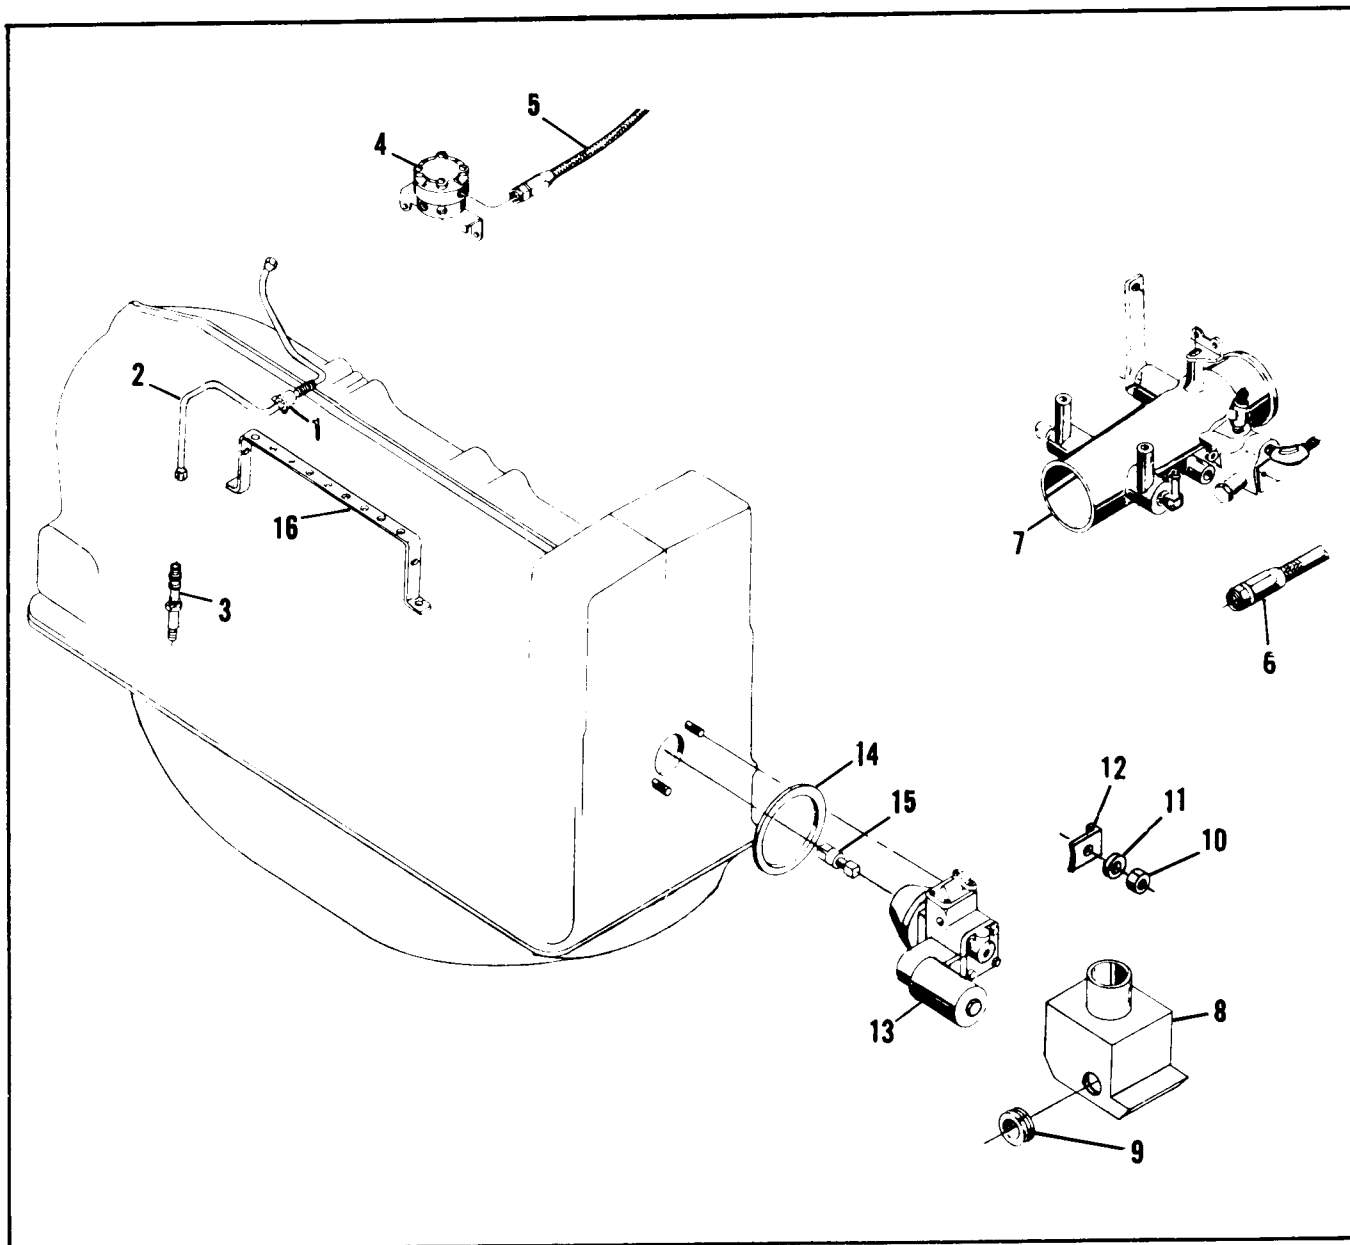

FIGURE 4-8. FUEL INJECTION SYSTEM, TSIO-520-D.
4-16. FUEL INJECTION SYSTEM, TSIO-520-D (See Figure 4-8).
- a. Disconnect six fuel discharge tubes (2) from fuel manifold valve (4) and nozzles (3). Compress spring legs of each clamp (1) and remove tubes and clamps. Remove nozzles (3) and store in a clean container.
- b. Disconnect hose assembly (5) from manifold valve (4) and metering unit; disconnect hose assembly (6) from metering unit and fuel pump (14).
- c. Bracket (8) should have been removed at the same time as the turbocharger (38, Figure 4-8). If not, do so at this time.
- d. Remove shroud assembly (9) from fuel pump (14). Remove attaching parts (11,12,13) and lift fuel pump (14) off crankcase studs. Remove gasket (15) and coupling (16).